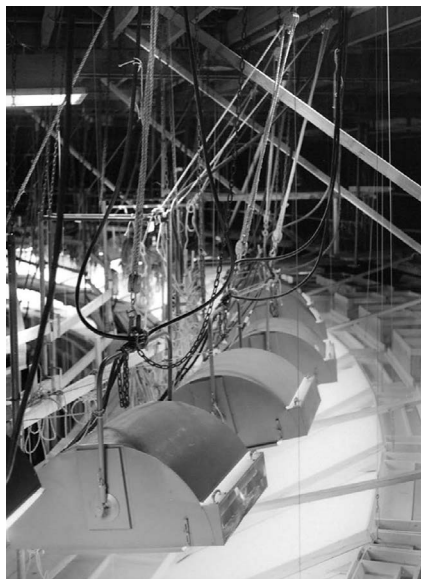

FIGURE 16.14
- Every light must have a safety cable looped through the bail and over the pipe to prevent the light from falling if it comes loose. Accessories such as barn doors or chimeras should also have a safety cable. Smaller lights typically use aircraft cable; larger ones may use nylon webbing or chain (Figure 16.14).